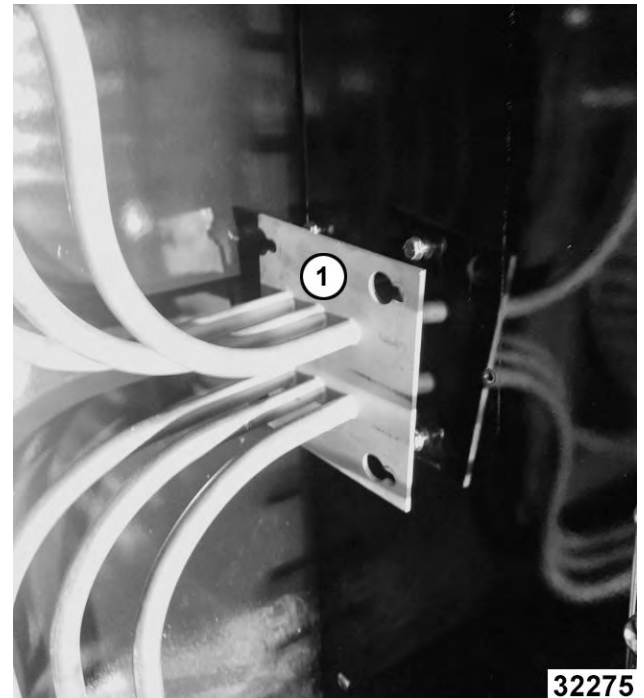

Fig. 18
8. Slide element mounting plate (1, Fig. 18) over to release from cavity wall and remove elements from oven.